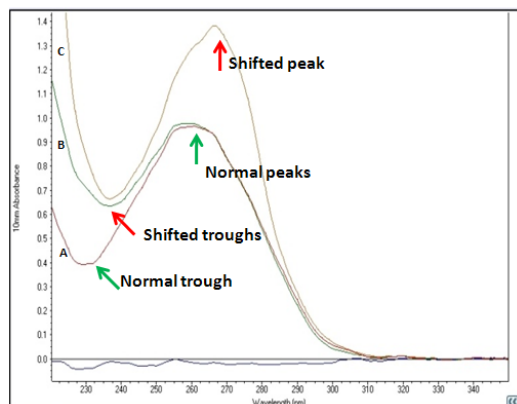

FIGURE 2. Spectra of purified DNA without contamination (A), and of the same DNA sample contaminated with guanidine (B) and phenol (C).
- Wavelength of the trough in sample spectrum– this should be at ~230 nm. Absorbance by a contaminant at a low wavelength will typically shift the wavelength of the trough. Refer to Figure 2.
- Wavelength of the peak in sample spectrum– this should be at 260 nm. Absorbance by a contaminant may shift the peak absorbance wavelength. Refer to Figure 2.